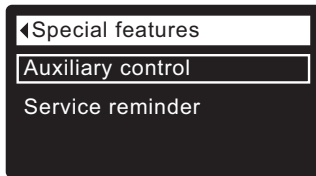

FIG. 83
1. From any of the rolling status screens, press the SELECT (O) button to display the **Main menu**.
3. Press the SELECT (O) button to display the Advanced settings menu.
5. Press the SELECT (O) button to display the Special features menu (See Figure 83).
9. Press the SELECT (O) button. The display will go back to the Special features menu (Figure 83).